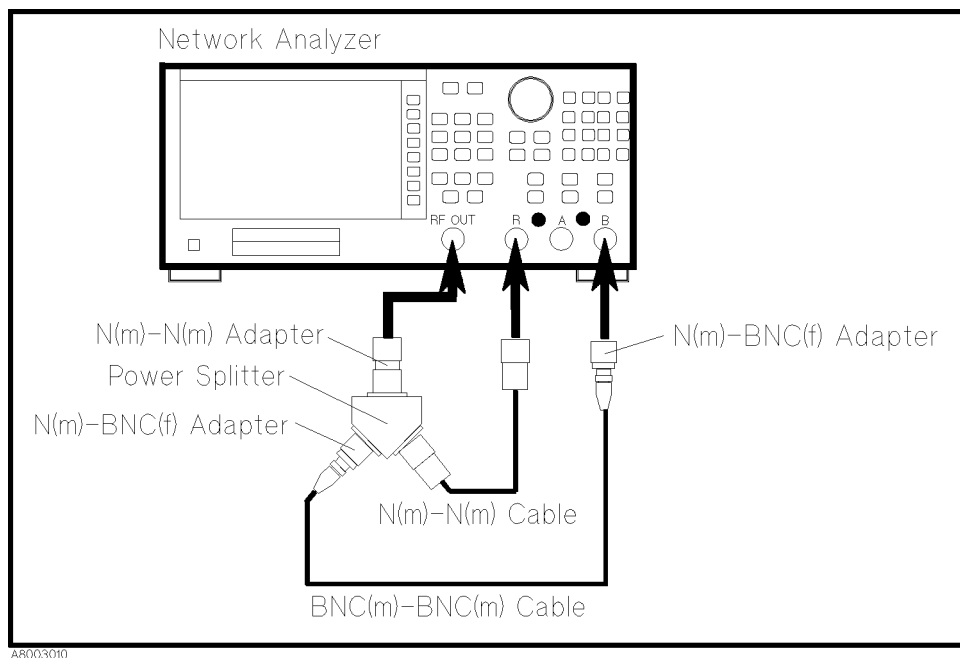

Figure 3-5. Probe Adjustment Setup Using a Network Analyzer—1
1. Connect the equipment as shown in Figure 3-5.